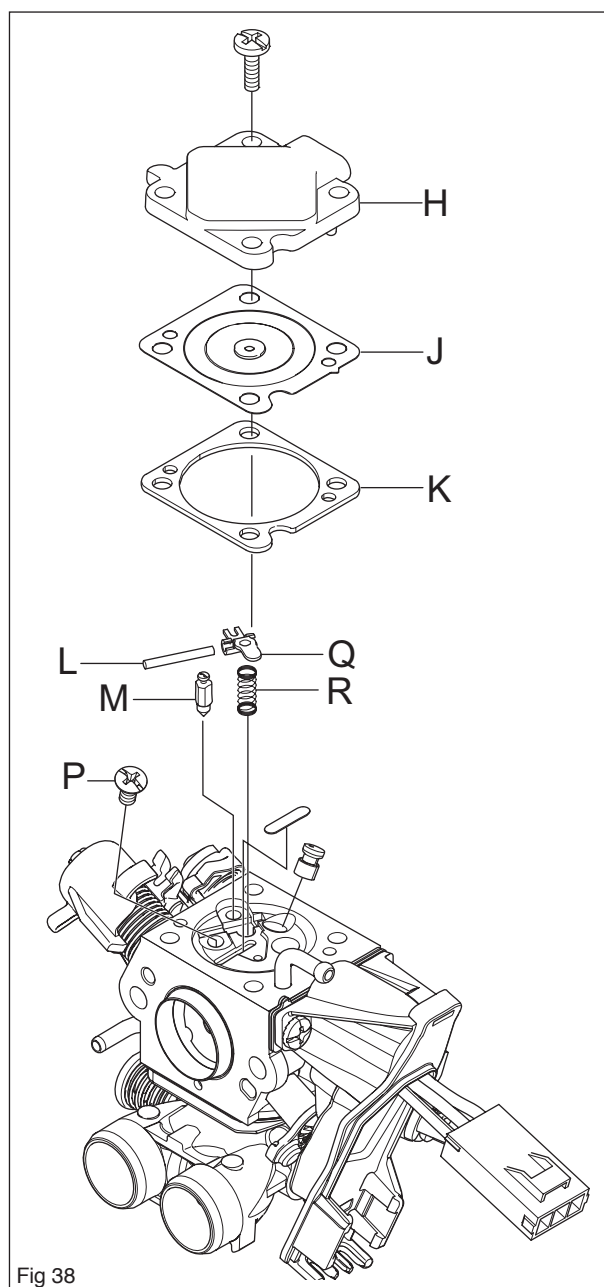

Fig 38
3. That the needle valve M and its lever arm Q are not worn. See figure 38.